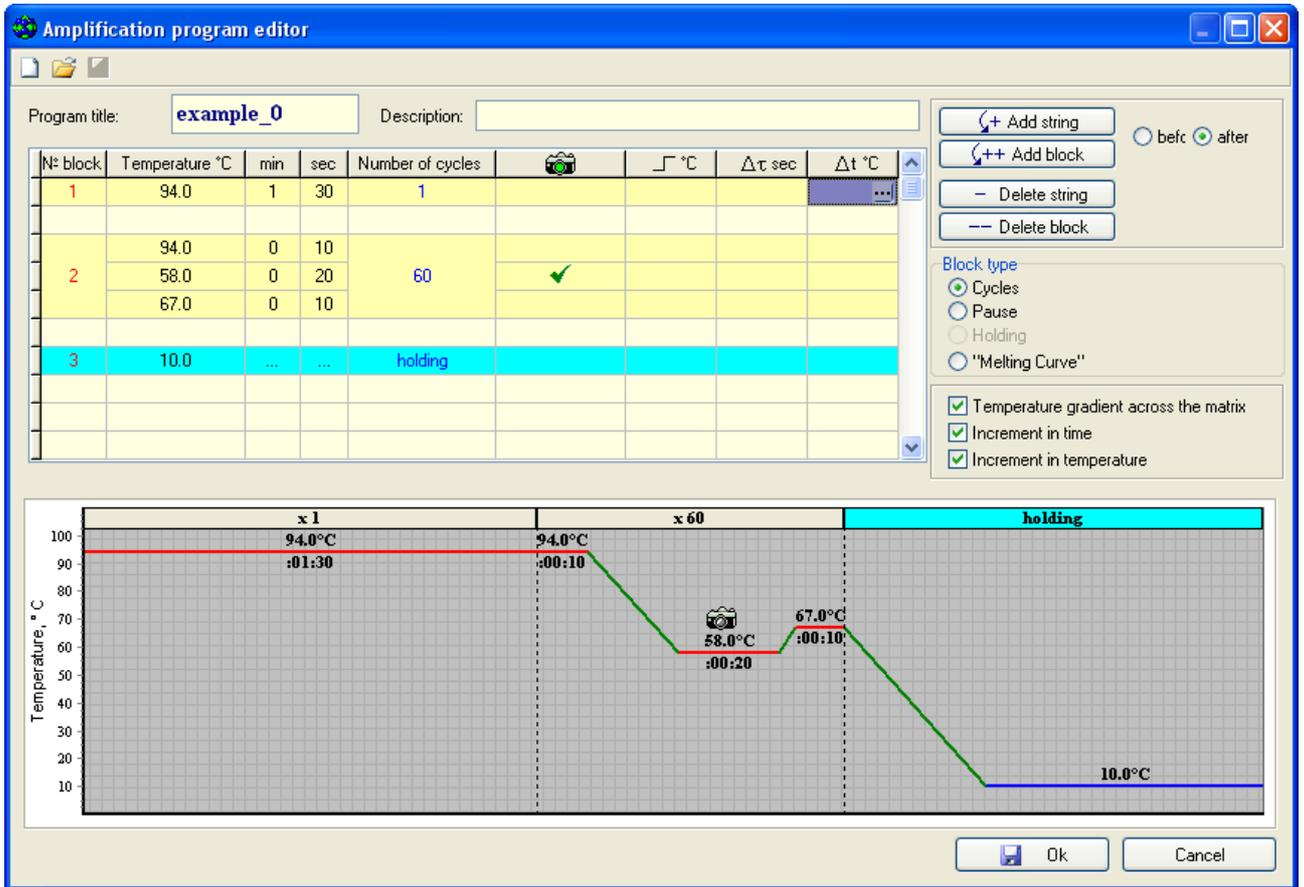

Fig.25. Creation of amplification program using template
2. Create a new amplification program (click ) by using the Amplification program editor or choosing amplification program template (Fig. 25).